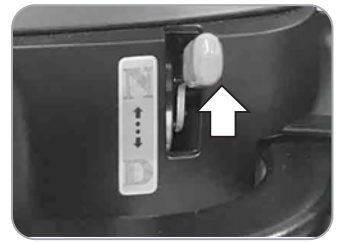

Figure 18
- When lever is Neutral (N) position, the scooter can be moved manually without power (Figure 18)